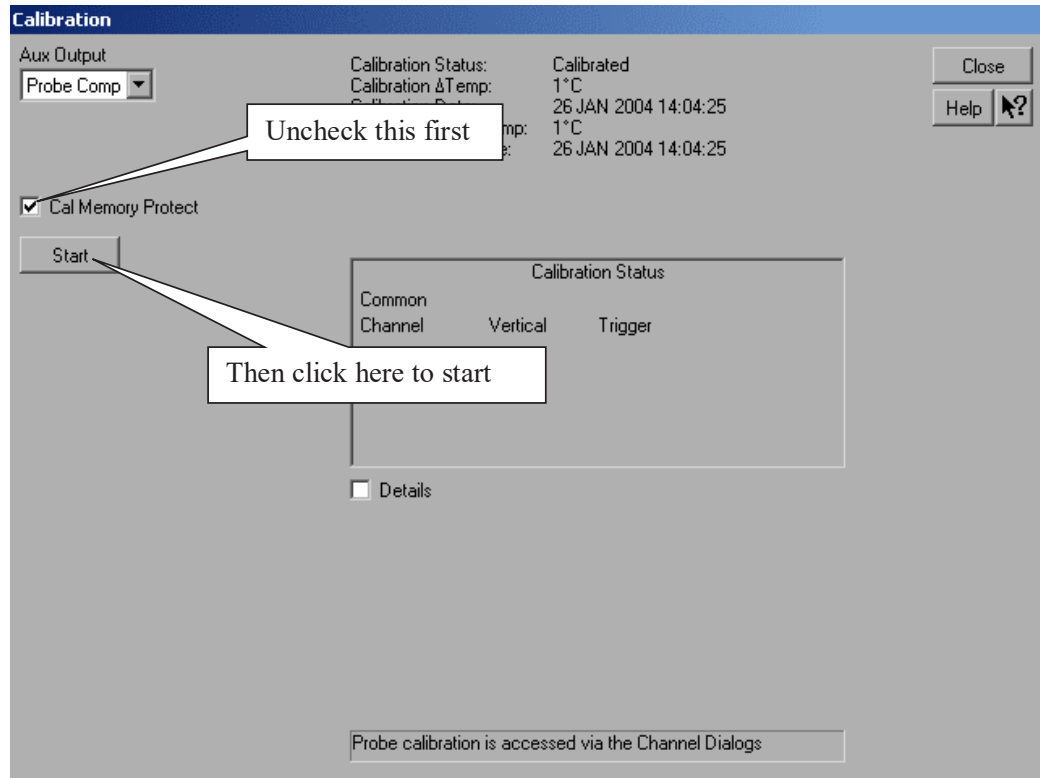

Figure 3 Oscilloscope Calibration Menu.
- 4 Referring to **Figure 3** below, perform the following steps to start the calibration: